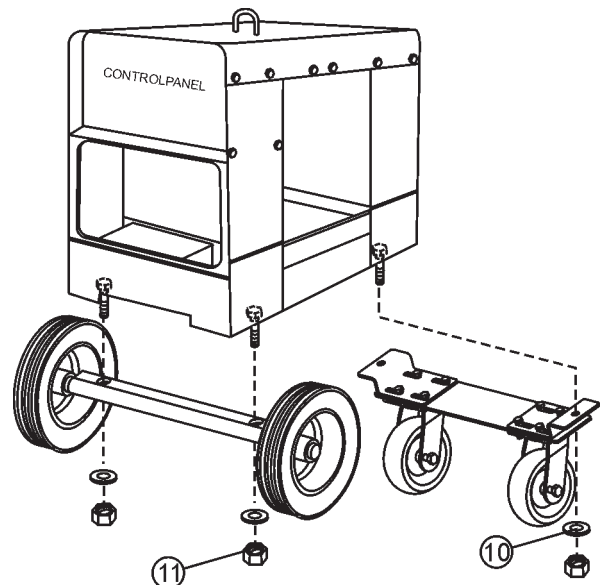

Figure 6. Secure Stationary Axle and Castor Wheel Assembly to Cabinet
6. With the stationary axle facing front, lift the axle up so the bolts in the cabinet floor pass through the bolt holes on the axle. Place a washer on the bolt under the axle and secure the axle to the cabinet with a nut (Figure 6).
- Center the Caster Wheel assembly underneath the machine. Lift the Caster Wheels up so the bolts in the cabinet floor pass through the bolt holes on the caster wheel frame. Place a washer on the bolt under the castor wheel frame and secure the castor wheels to the cabinet with a nut (Figure 6).